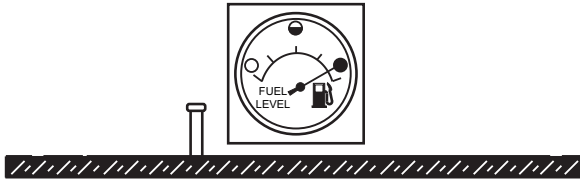

Figure 33. Full Fuel Tank
- NEVER overfill the fuel tank** — It is important to read the fuel gauge when filling the fuel tank. **DO NOT** wait for fuel to rise in the filler neck (Figure 33).